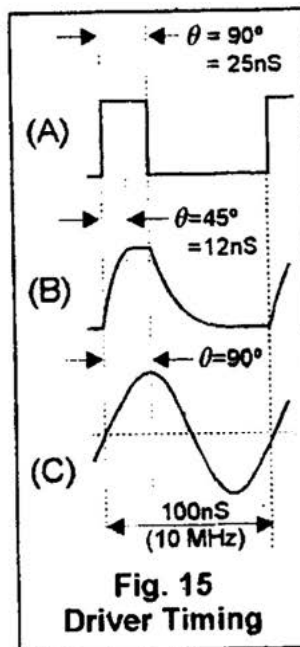

Fig. 15
I recommend striving for 15–20nS. See Figure 15. This is also consistent with the ~16nS rise time, t_r , of the IRF510. "Tr" is theoretically the fastest C_{iss} can be charged.
I have found a driving current of 25–30mA to be a nice compromise to charge C_{iss} sufficiently fast for high efficiency. Referring to Fig. 15 (B), if the gate waveform does not flatten out at the 8v level (looks more like a sine wave), the driver is not providing sufficient current to the gate. Driving the gate voltage to saturation quickly, by providing sufficient gate drive current, is paramount in achieving the